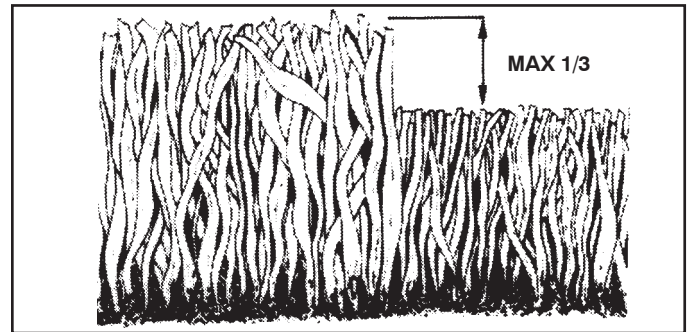

Fig. 13B
- For best results, adjust the mower cutting height so that the mower cuts off only the top one-third of the grass blades (See Fig. 13B). For extremely heavy mulching, reduce your width of cut on each pass and mow slowly.